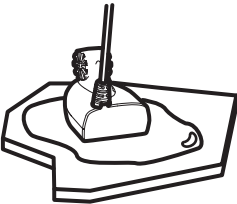

Figure 31
6. Press the transducer into place with a slight twisting motion to purge any trapped air from underneath, keeping the pointed end of the transducer body pointed forward, towards the bow (Figure 31).